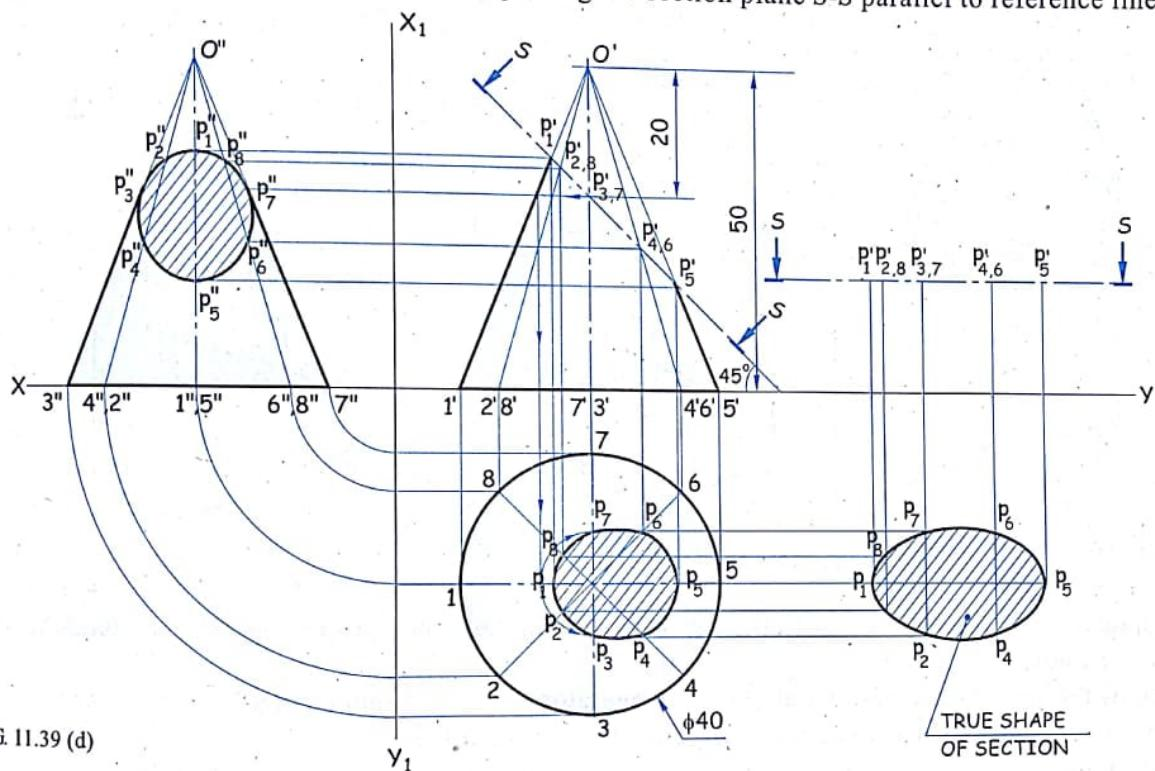

FIG. 11.39 (d)
Solution (c). Refer figure 11.39 (d)
- (i) Place the section plane $S-S$ with points $p'_1, p'_2, p'_3, \dots, p'_8$ parallel to the XY line as shown in figure 11.39 (d).